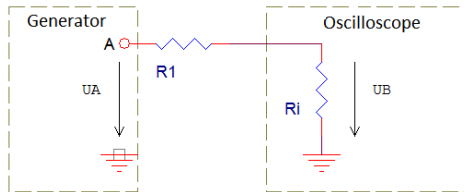

Fig. 11: Measurement of  $R_i$  using a resistive divider.
Oscilloscopes do not have infinite input impedances, but high valued equivalent input resistances  $R_i$ . In order to measure  $R_i$ , one uses a resistive divider as in Fig. 11:
On Fig. 11,  $R_1$  is the **high valued** (greater than  $400\text{K}\Omega$ ) resistor available at the table. Resistance  $R_i$  is **equivalent**, it exists „inside” the oscilloscope, it is no physical resistor. Due to the  $U_A$  voltage from the generator dividing on  $R_1$  and  $R_i$ , the signal on the oscilloscope will be:
- insert  $R_1$  on the breadboard as in Fig. 11 (in series between the generator and the oscilloscope; all the black alligators remain connected at the ground terminal). Now the oscilloscope „sees” the voltage  $U_B$ , having a reduced value when compared to  $U_A$  because of the effect of the divider.